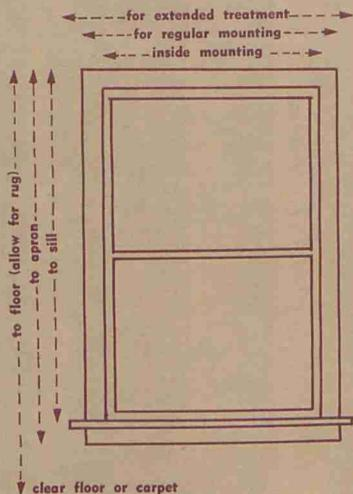

Figure 1
1. Measure the finished length of the drapery. Determine if it will hang to the sill, bottom of apron or the floor. **Fig. 1.**